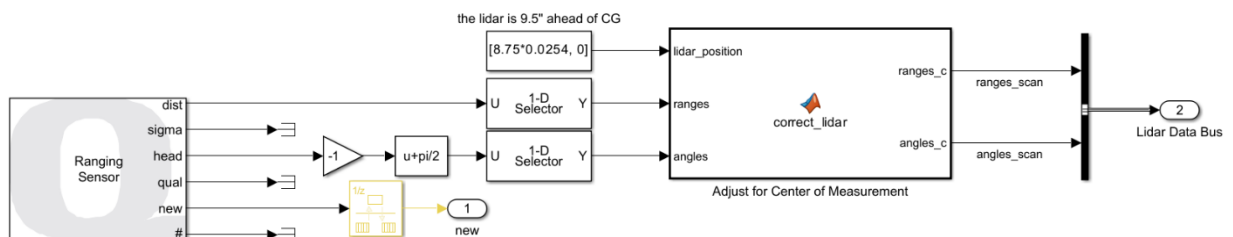

Figure 3. Lidar & Localization Block
1. In this lab you will be focusing on processing the LiDAR scan data to enable obstacle detection of the QBot. First, we will take a look at the **Lidar and Localization** subsystem, it should look like figure 3. In this subsystem, the reference frame of the LiDAR data is transferred from the center of the sensor to the center of the QBot. The **Quanser Ranging Sensor** block outputs distances measured in meters and the corresponding headings. Other properties such as the standard deviation (sigma) and quality (qual) of the measurement were not used in our application. To learn more about the output of **Quanser Ranging Sensor** block, right click on the block and select "help" to go to its documentation.